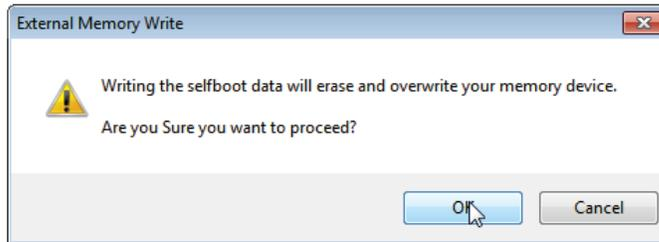

Figure 67. External Memory Erase and Overwrite Warning Window
8. A warning window appears to remind you that executing this action erases and overwrites any data currently stored on the EEPROM (see Figure 67). Click **OK** to proceed.